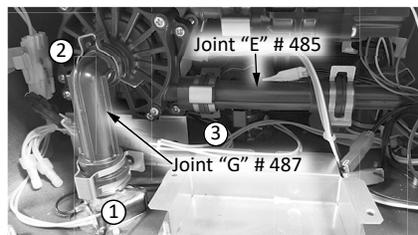

Figure 78: Metal Fastener and Pipe Joint Re-
- 6 Remove the three metal fasteners securing the plastic piping to the recirculation pump. ① uses a 16A metal fastener, Connections ② and ③ use 12.7A metal fasteners. See Figure 78.
- 6 Remove the plastic piping Joint "E" and Joint "G". Set these sections aside for re-installation. See Figure 78.
- 11 Reconnect plastic piping joints. Inspect the O-rings, if any cuts or nicks are present replace them immediately. See Figure 78.
- 12 Reattach the three metal fasteners securing the plastic piping joints to the recirculation pump. ① uses a 16A metal fastener,
Connections ② and ③ use 12.7A metal fasteners. See Figure 78.